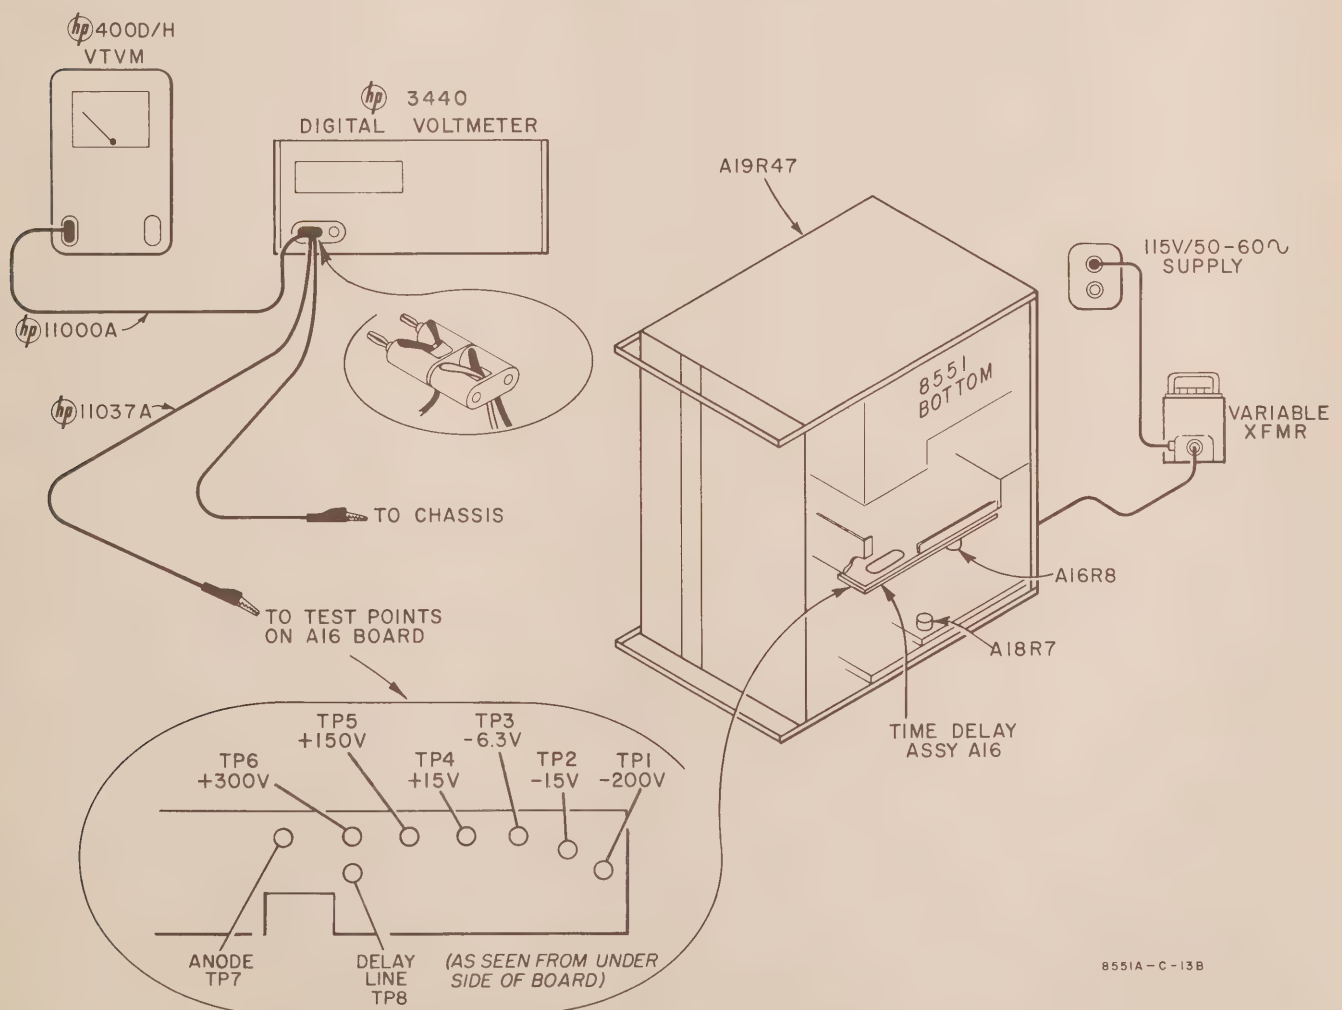

Figure 5-4. Measurement Setup, Low-Voltage Power Supplies
5-54. SETUP (SEE FIGURE 5-4).
c. Measure voltage from ANODE test point A16TP3 on HV TD Assy A16 (Figure 5-4) to ground, and adjust A16R8 for anode voltage stamped on BWO.